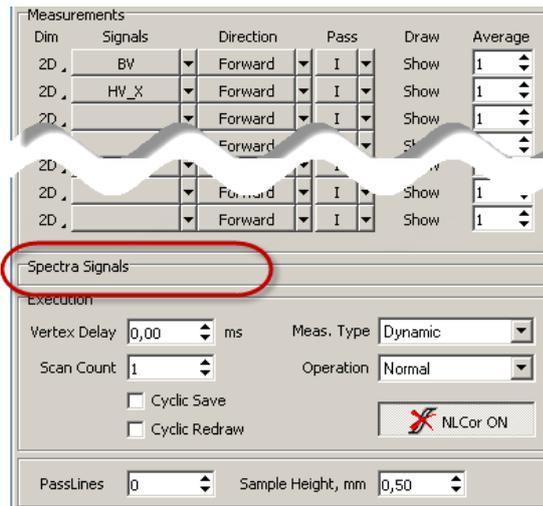

Fig. 10-28. View of the **Spectra Signals** panel when no optical signal is selected for detection
*NOTE. If no optical signal (defined in the **Spectra** window) is selected for detection, the **Spectra Signals** panel of the **ScanSettings** dialog will be unavailable (Fig. 10-28). In this case, you have to return to the **Spectra** window and to enable the desired signals to detect.*